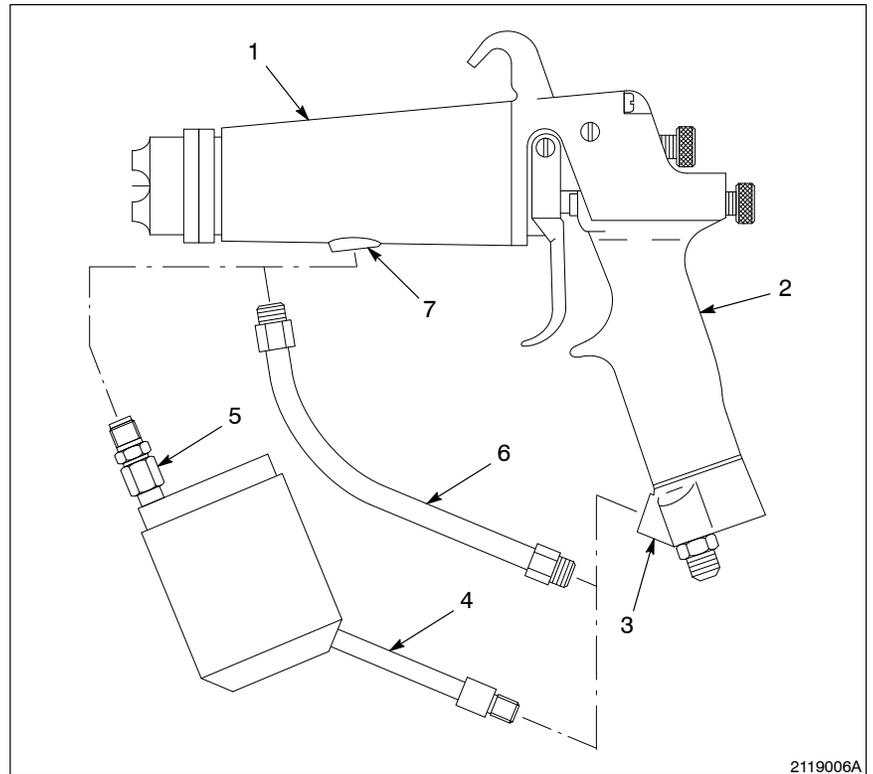

Fig. 3-3 Optional AN-8 Plus Isocoil
2. See Figure 3-3. Remove the fluid tube (6) between the gun extension (1) and the gun handle (2).
3. Connect the Isocoil swivel fitting (5) to the fluid inlet port (7) on the gun extension.
4. Connect the Isocoil fluid tube (4) to the fluid port (3) on the gun handle.